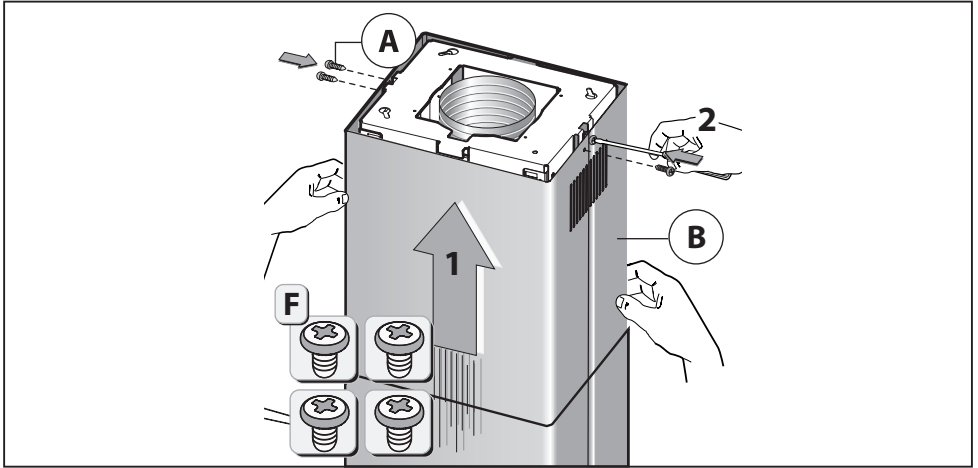

Fig.9
-Take the upper chimney piece and fix it to the structure using the screws **A** (Fig.9). Join the lower chimney piece with the upper one and fix it carefully using adhesive tape **L** (Fig.10A).
- Lower the upper chimney by performing the reverse operation shown in figure 9.